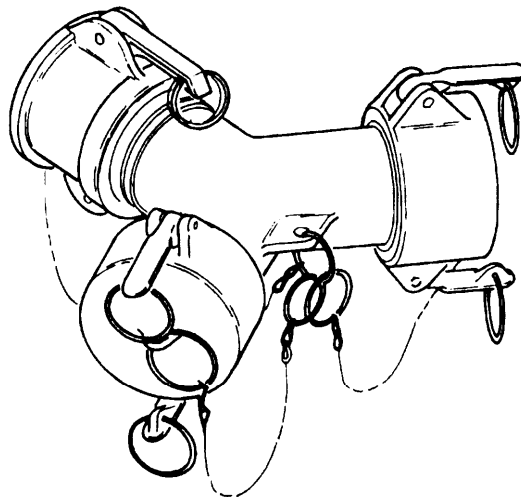

Figure 1-13. Wye Fitting.
**1-18. WYE FITTING.** (Refer to Figure 1-13.)